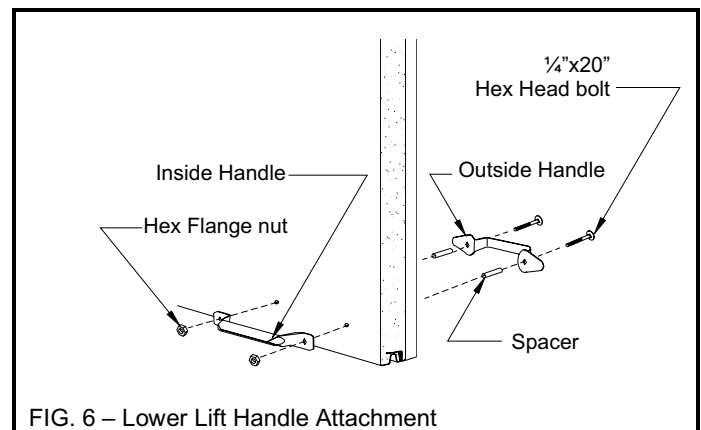

FIG. 6 – Lower Lift Handle Attachment
Step 5: Attach the black ornamental handle (outside) and the steel roll grip handle (inside) to the door using two 1/4" black painted hex head bolts, and two 1/4" hex nuts (See Fig. 6).